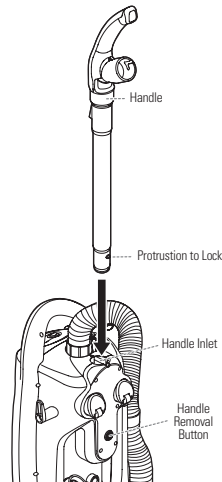

Fig. 6
- Insert handle in the handle inlet on the top of the body. (Fig. 6)